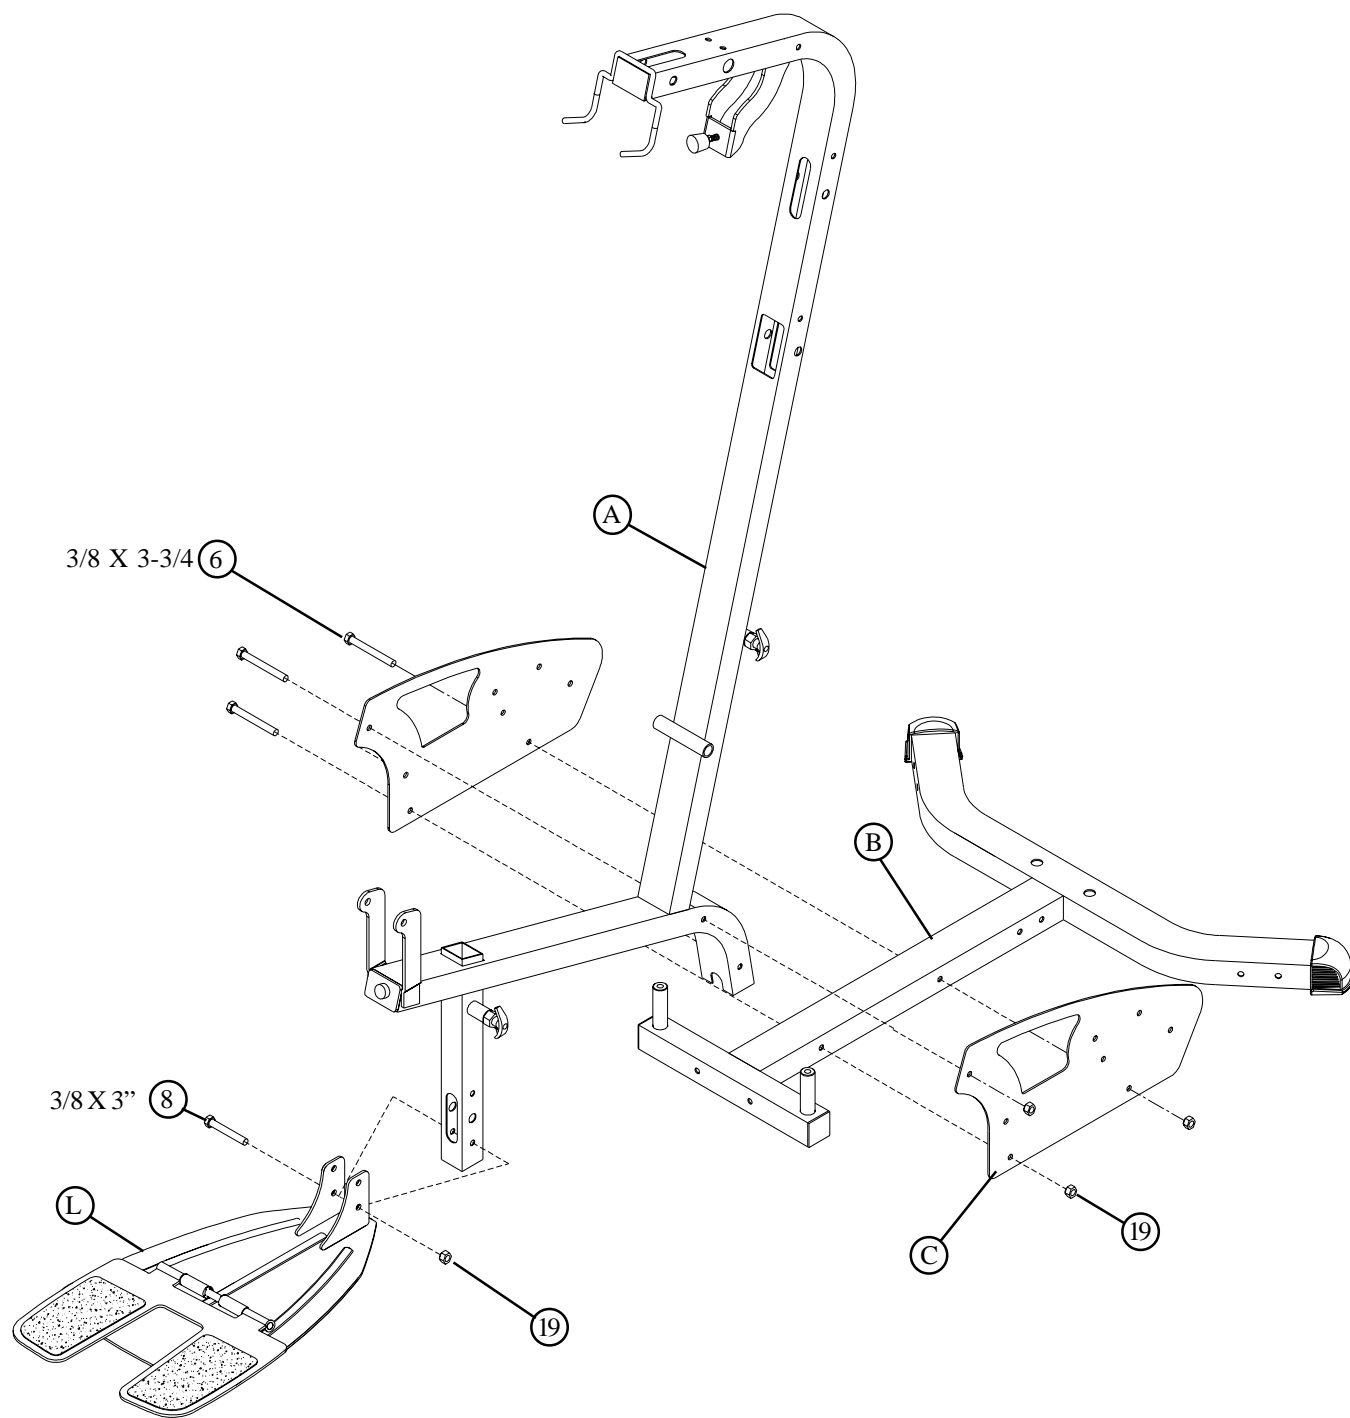

FIGURE 1
- **LOOSELY** assemble two BASE PLATES (C) to the FRAME (A) and BASE (B) using three 3/8 X 3-3/4" BOLTS (6) and four 3/8" LOCKNUTS (19). See FIGURE 1.
- **LOOSELY** assemble the FOOTPLATE (L) to the lower holes in the FRAME (A) using one 3/8 X 3" BOLT (8) and one 3/8" LOCKNUT (19) as shown in FIGURE 1.